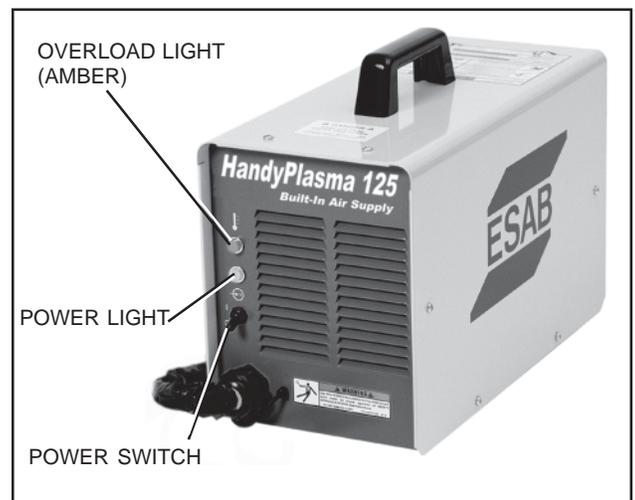

Fig. 3.3 - Controls on Handy Plasma 125 Console
B. HANDY PLASMA 125 CONTROLS & ADJUSTMENTS (See Fig. 3.3)